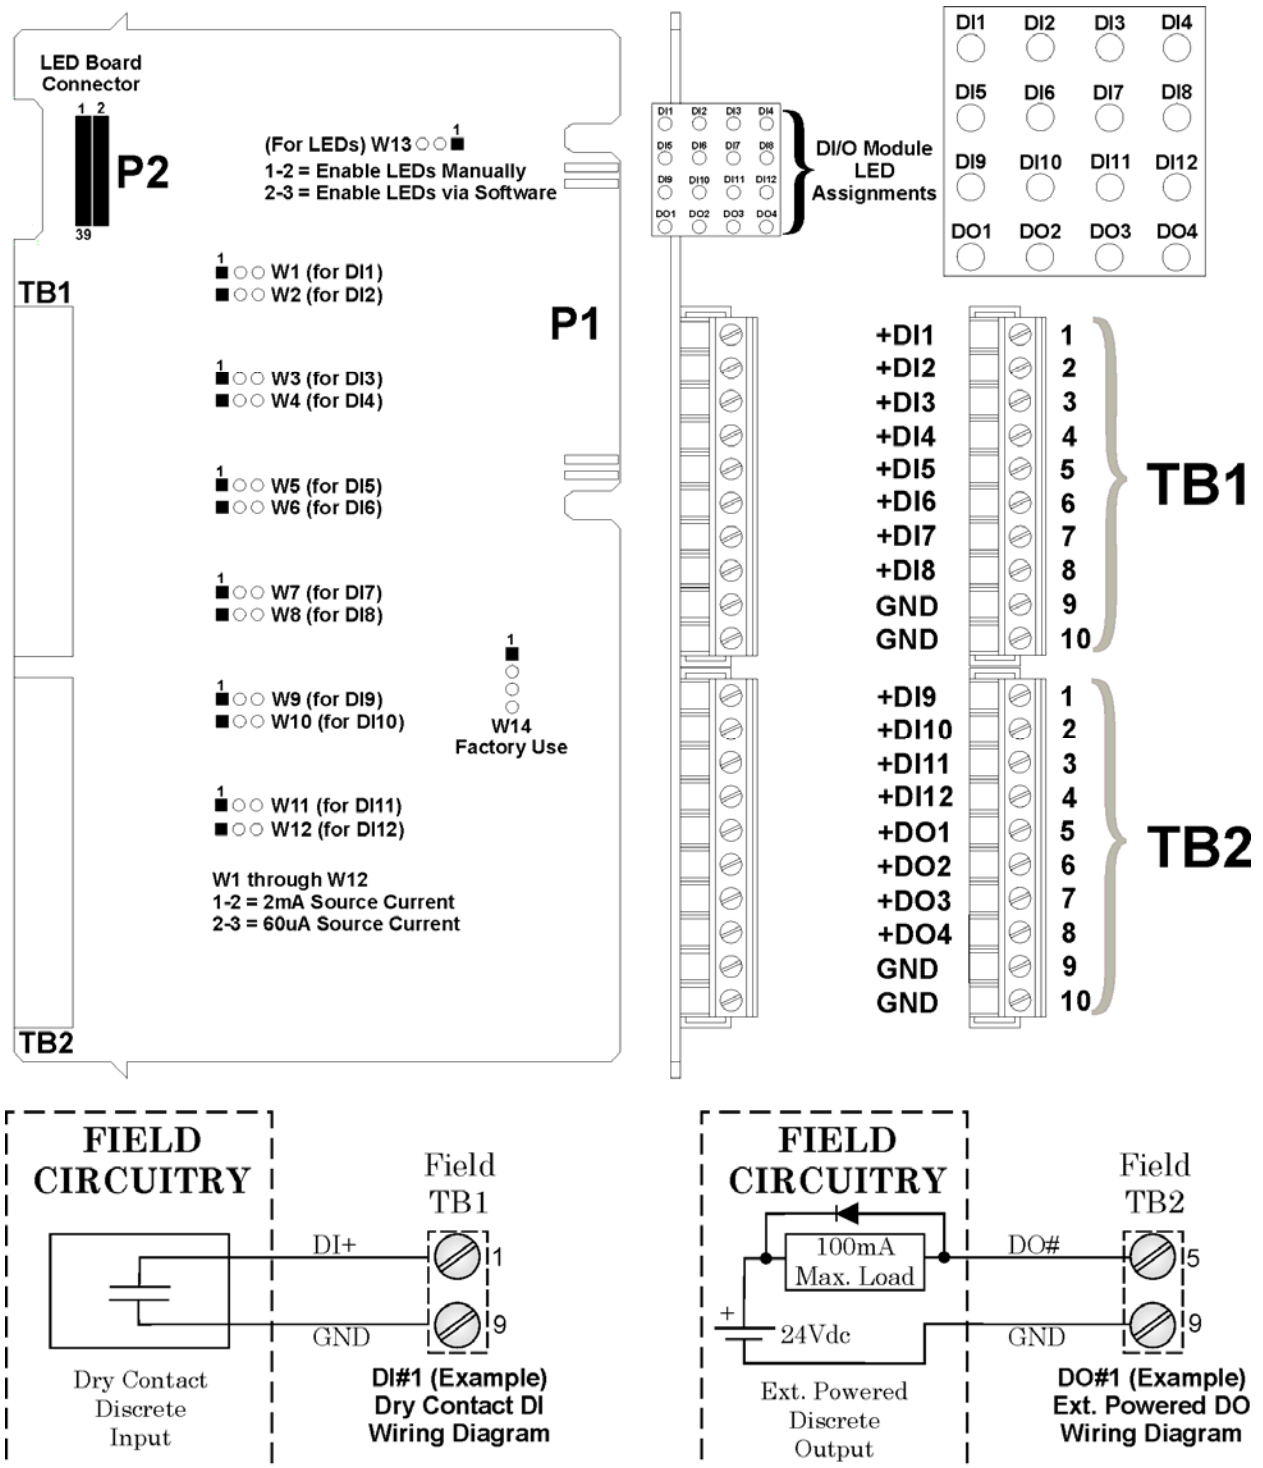

Figure 2-19 - Non-Isolated DI/O Module Configuration Diagram
2.3.4.4 Non-isolated Digital Input/Output Module (see Figure 2-19)
Digital Input/Output Modules provide 12 individually field configurable DIs and 4 non-configurable externally powered DOs. Each DI may be individually set to provide either a 2mA or 60uA source current via Configuration Jumpers W1 through W12. Open drain MOSFETs associated with each DO provide up 100mA each @ 30Vdc to an externally powered device. DI/O Module Configuration Jumpers W1 through W14 must be set per Table 2-8. Field wiring assignments are provided in Figure 2-19.